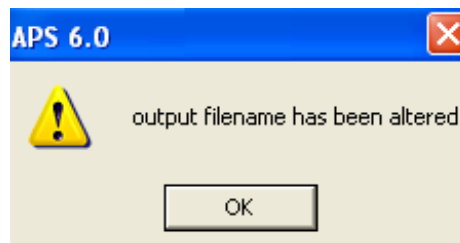

Figure 34: Filename Altered Message Box
6. Once the above job is complete, and if the output filename was going to be altered, APS will provide a message informing the user. This box is shown in Figure 34: Filename Altered Message Box.